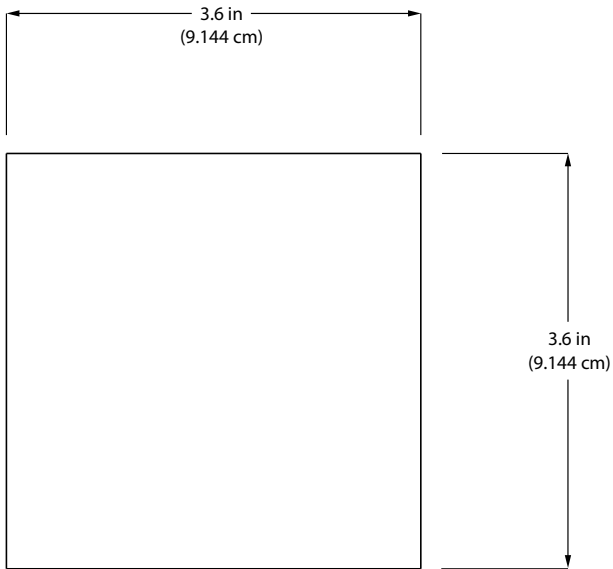

FIGURE 2
1. Cut a 3.6" × 3.6" square opening in the panel. See **Figure 2**.